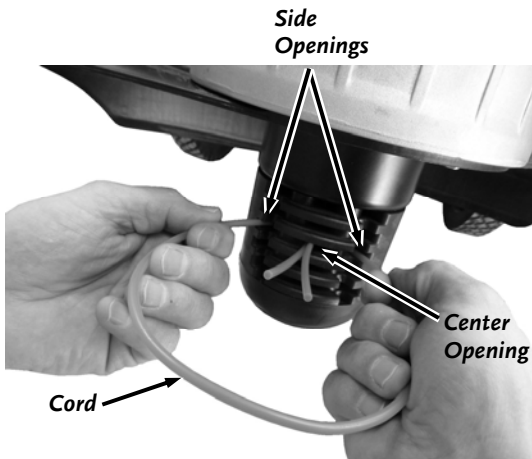

Figure 11
1. Insert the ends of the Cord into the side openings in the Line Plate (**Figure 11**).